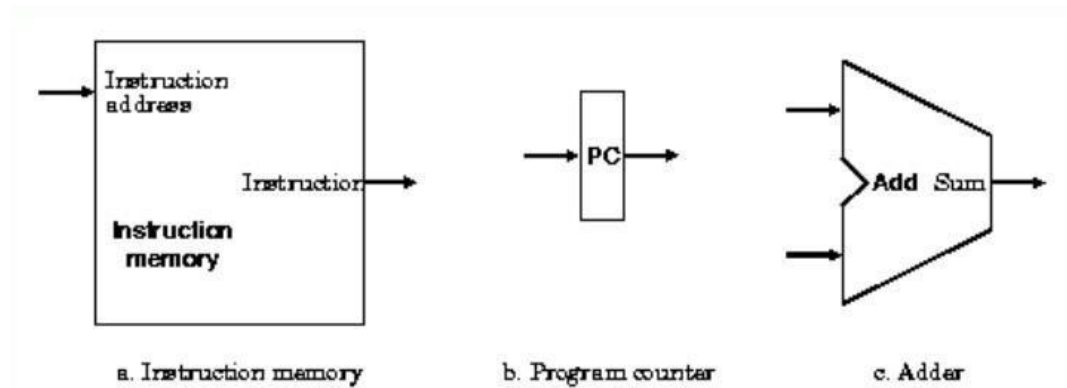

Fig 3.3: Two state elements are needed to store and access instructions, and an adder is needed to compute the next instruction address.
- ❖ Figure 3.3a shows the first element we need: a memory unit to store the instructions of a program and supply instructions given an address. Figure 3.3 b also shows the **program counter (PC)**, the register containing the address of the instruction in the program being executed.